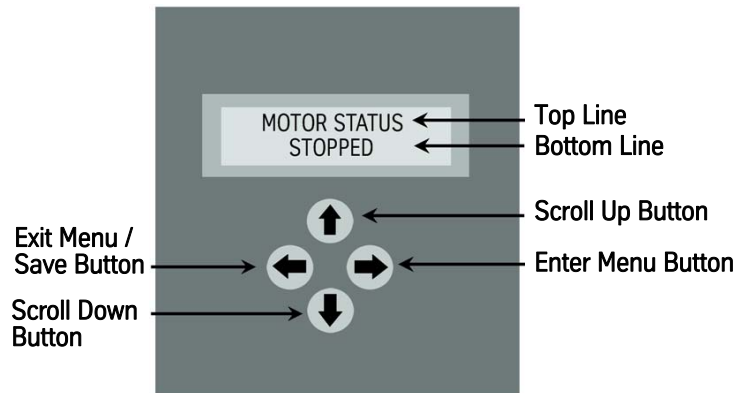

Figure 27 - Electronic Starter Display
- The starter's display should read **MOTOR STATUS STOPPED** when the system is normal. Reset the starter if it reads otherwise and, before continuing, correct any problem indicated on the display. See Figure 27 on page 46 for this and all following steps in this procedure.